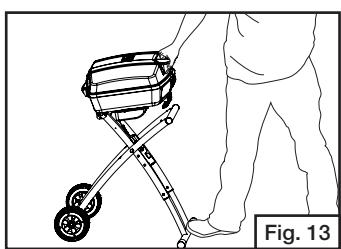

Fig. 13
- Continue to pull lid handle toward you until stand is fully extended. (Fig. 13)